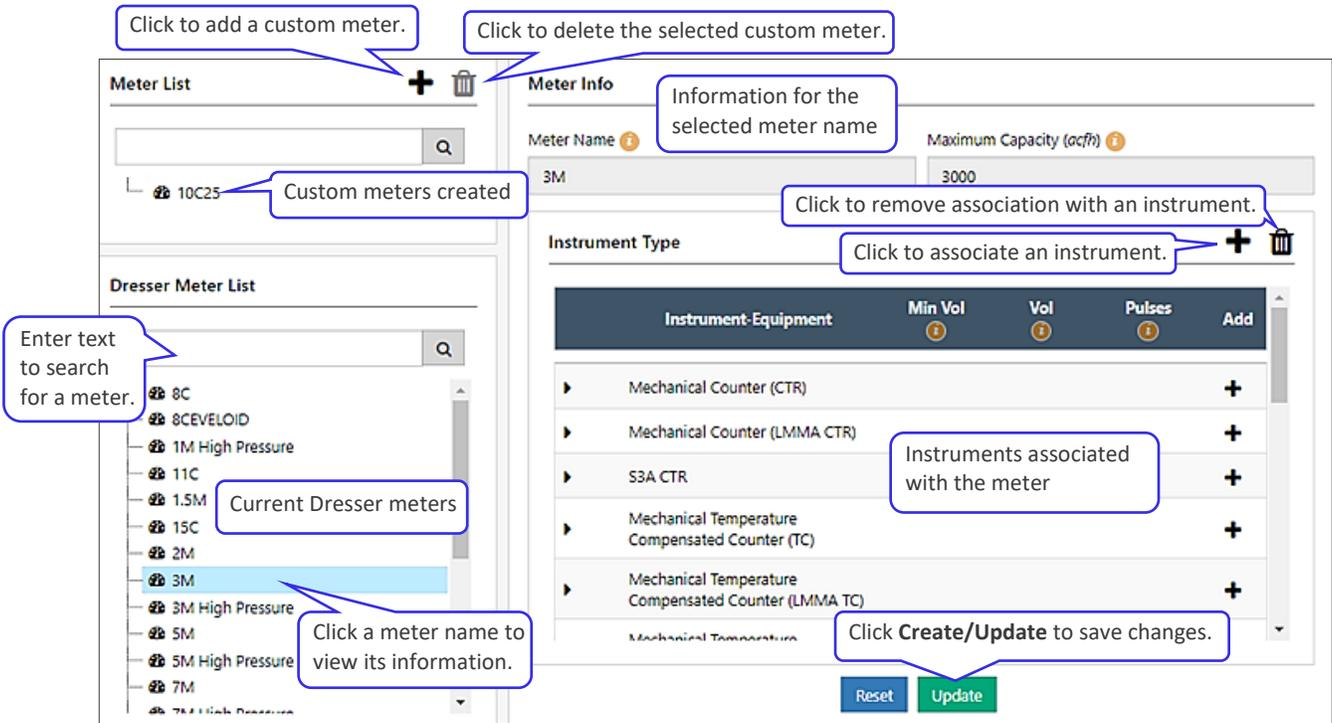

Figure 73: Meter Configuration screen
The Meter Configuration screen displays (Figure 73) and has the following sections:
To create a meter, perform the following steps in the Meter Configuration screen (Figure 73):
1. Click the meter to modify in one of the meter lists in the Meter Configuration screen (Figure 73), and make the needed changes. For more information, refer to step 4 through step 9 in Section 11.3.1.